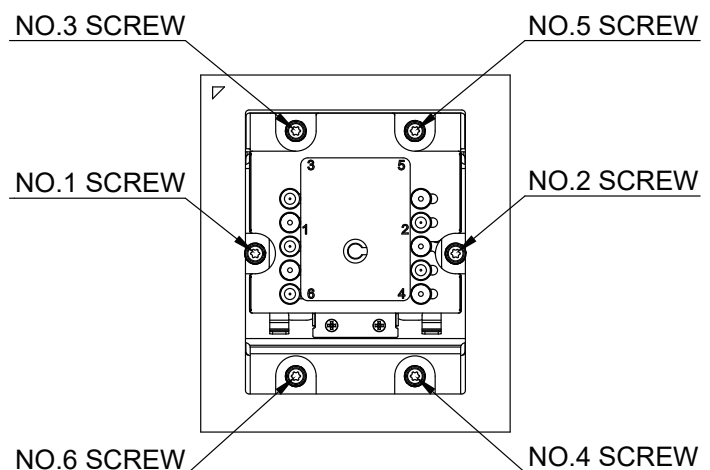

Figure 4
5. Tighten the two diagonal heat sink mounting screws, i.e. the #1 and #2 screws (Figure 4) completely tighten screws one-at-a-time Then do the same with the remaining four diagonal heat sink mounting screws.